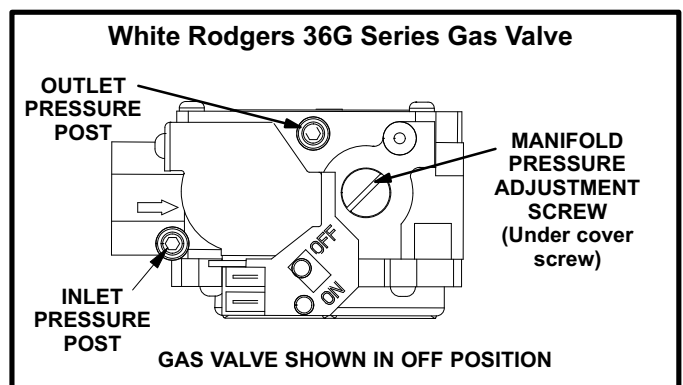

FIGURE 24
*White Rodgers 36G Gas Valve* - Move gas valve switch to **OFF**. See figure 24.
*White Rodgers 36G Gas Valve* - Move gas valve switch to **ON**. See figure 24.